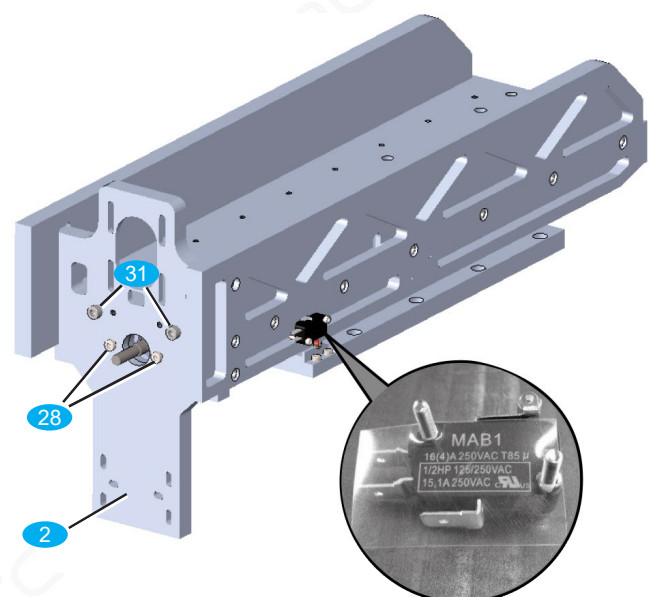

Fig. 5: Mounting of motor plate and reference switch
- Place the insert film between the reference switch **22** and the Z reinforcement and screw on the reference switch as shown in Fig. 5.